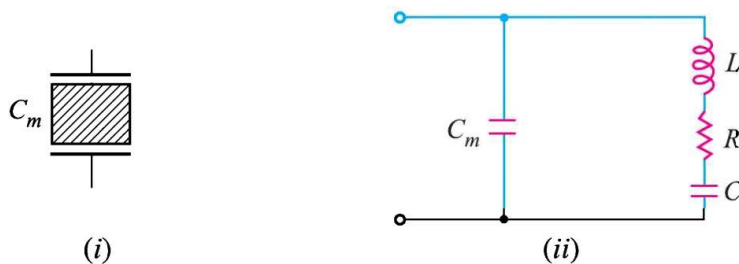

Fig. 14.21
- (i) When the crystal is not vibrating, it is equivalent to capacitance  $C_m$  because it has two metal plates separated by a dielectric [See Fig. 14.21 (i)]. This capacitance is known as *mounting capacitance*.
- (ii) When a crystal vibrates, it is equivalent to  $R-L-C$  series circuit. Therefore, the equivalent circuit of a vibrating crystal is  $R-L-C$  series circuit shunted by the mounting capacitance  $C_m$  as shown in Fig. 14.21 (ii).